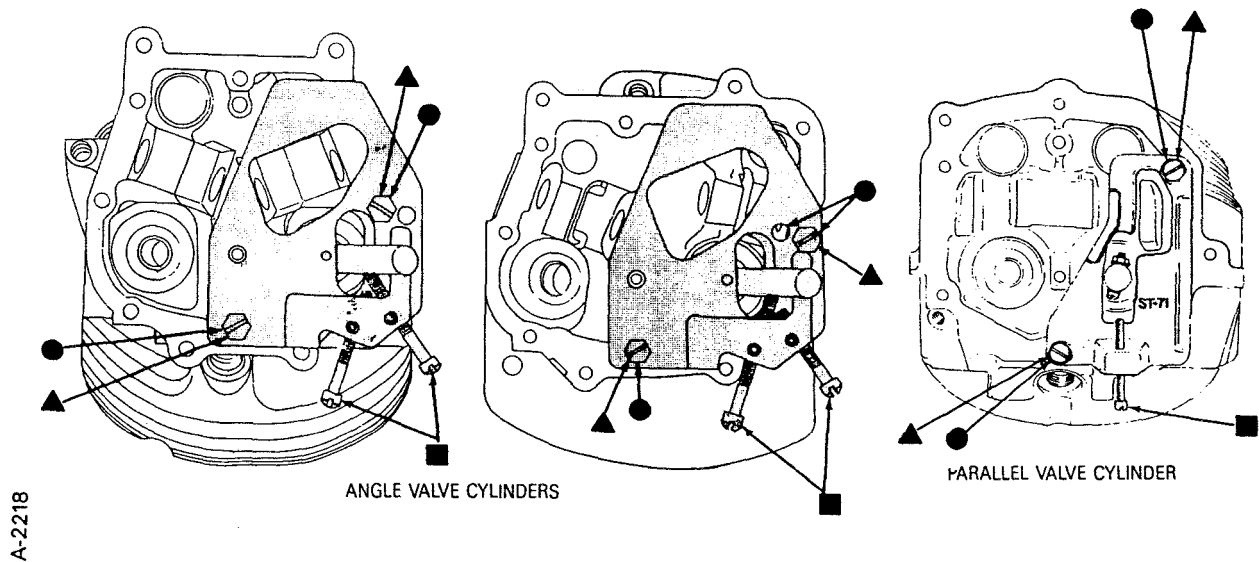

Figure 2. Compressor Plate Installed on Cylinder — Angle and Parallel Valve Cylinders
The illustrations used in PART 1 are primarily of a parallel valve cylinder and the P/N ST-71 fixture which uses one adjustable self-locking screw to measure valve stem movement on all parallel valve cylinders. The procedure for inspecting angle valve cylinders with the ST-310 Fixture is basically the same. Refer to Figure 2 for Fixture installation. Valve guide wear (bell mouthing) occurs on the inside diameter of the valve guide in a straight line with the centerline of the rocker arm. Valve stem movement must be measured by moving the valve stem along this line. The ST-310 Fixture incorporates two adjustable self-locking screws located at different angles to accomplish this on two differently designed angle valve cylinder head configurations. Refer to Figure 2.
7. All Engines: Insure the adjustable self-locking set screws on the ST-71 or ST-310 fixtures are backed out (counterclockwise) to avoid interference with the adapter post attached to the valve stem. See Figure 2.